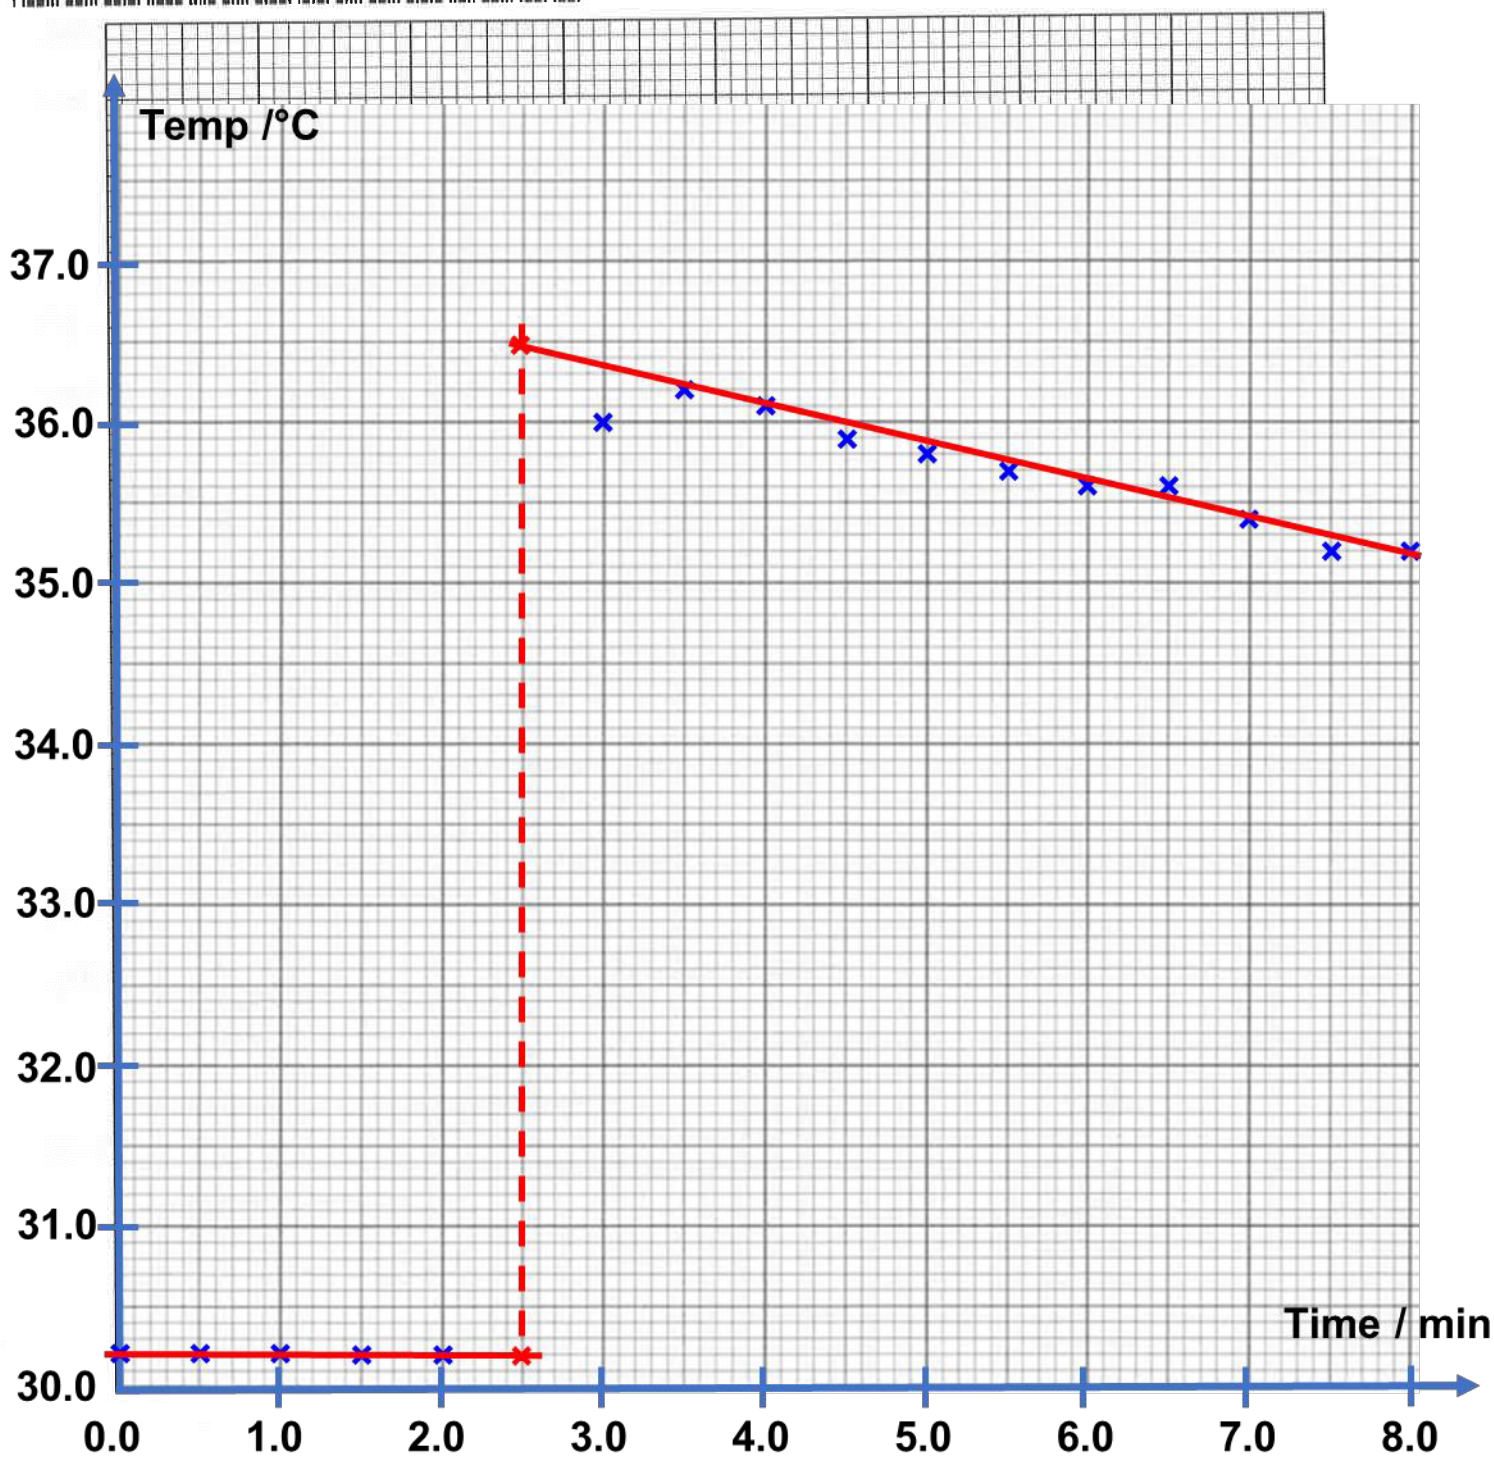

Fig. 2.1
- (II) Plot a graph of temperature, T , on the y-axis, against time, t , on the x-axis, on the grid in Fig. 2.1.